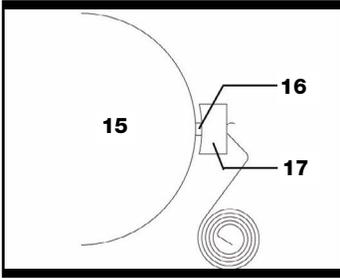

Fig. 7-1
15. COMMUTATOR (See Fig 7-1)
16. RESIN INSULATING TIP (See Fig 7-1)
17. CARBON BRUSHES (See Fig 7-1)
11. AUTO-STOP CARBON BRUSH (See Fig.7-1)